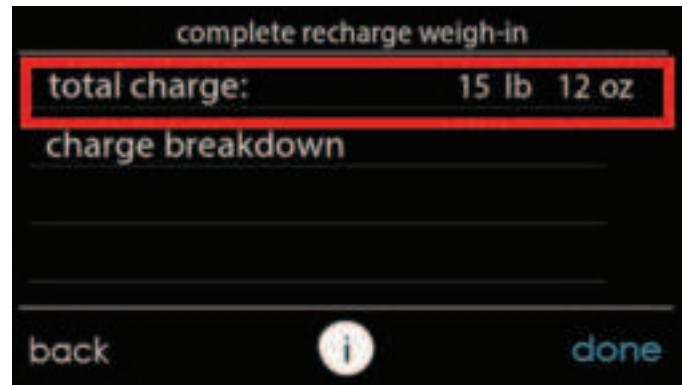

Fig. 21 – Total Charge Required for a Complete Charge
14. If this is a complete re-charge then select "complete recharge" in the "charging mode selection" screen. This screen will show the total amount of charge to add for the indoor coil, line set, and outdoor unit (see Fig. 21). The "charge breakdown" screen shows the charge required for each component of the system.